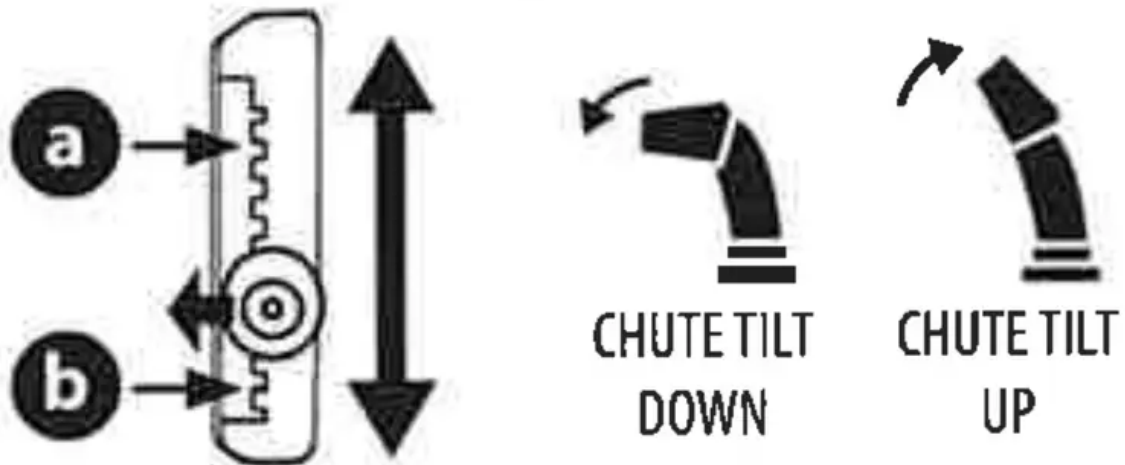

Figure 66
To raise or lower the upper chute, move the lever forward or backward (Figure 66).
- **To Reduce the Distance Snow is Thrown:** Move the lever forward to tilt the upper chute down (Figure 66).
- **To Increase the Distance Snow is Thrown:** Move the lever rearward to tilt the upper chute up (Figure 66).
- **To Reduce the Distance Snow is Thrown:** Disengage lever from the current chute setting. Move the lever forward to tilt the upper chute down to the desired setting(a) (Figure 66).
- **To Increase the Distance Snow is Thrown:** Disengage lever from the current chute setting. Move the lever rearward to tilt the upper chute down to the desired setting(b) (Figure 66).